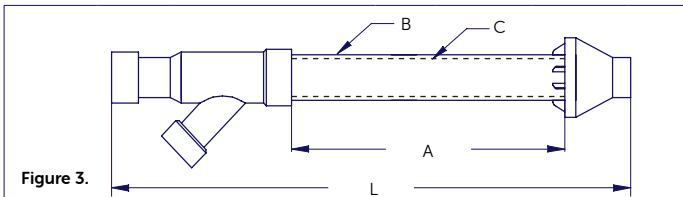

Figure 3.
- Refer to Figure 3 for assembled Concentric Vent Kit dimensions.
- If the assembly is too short to meet the height requirement, the 2 pipes supplied in 2" and 3" kits may be replaced with Westlake Pipe & Fittings PVC IPS SDR26 pipe (for GVS-65 kits) or GVS-90 pipe (for GVS-90 Kits) of the same diameter. The pipe length ("A" dimension on Figure 3) may be extended to a maximum of 63" for 2" kits and 68" for 3" kits.